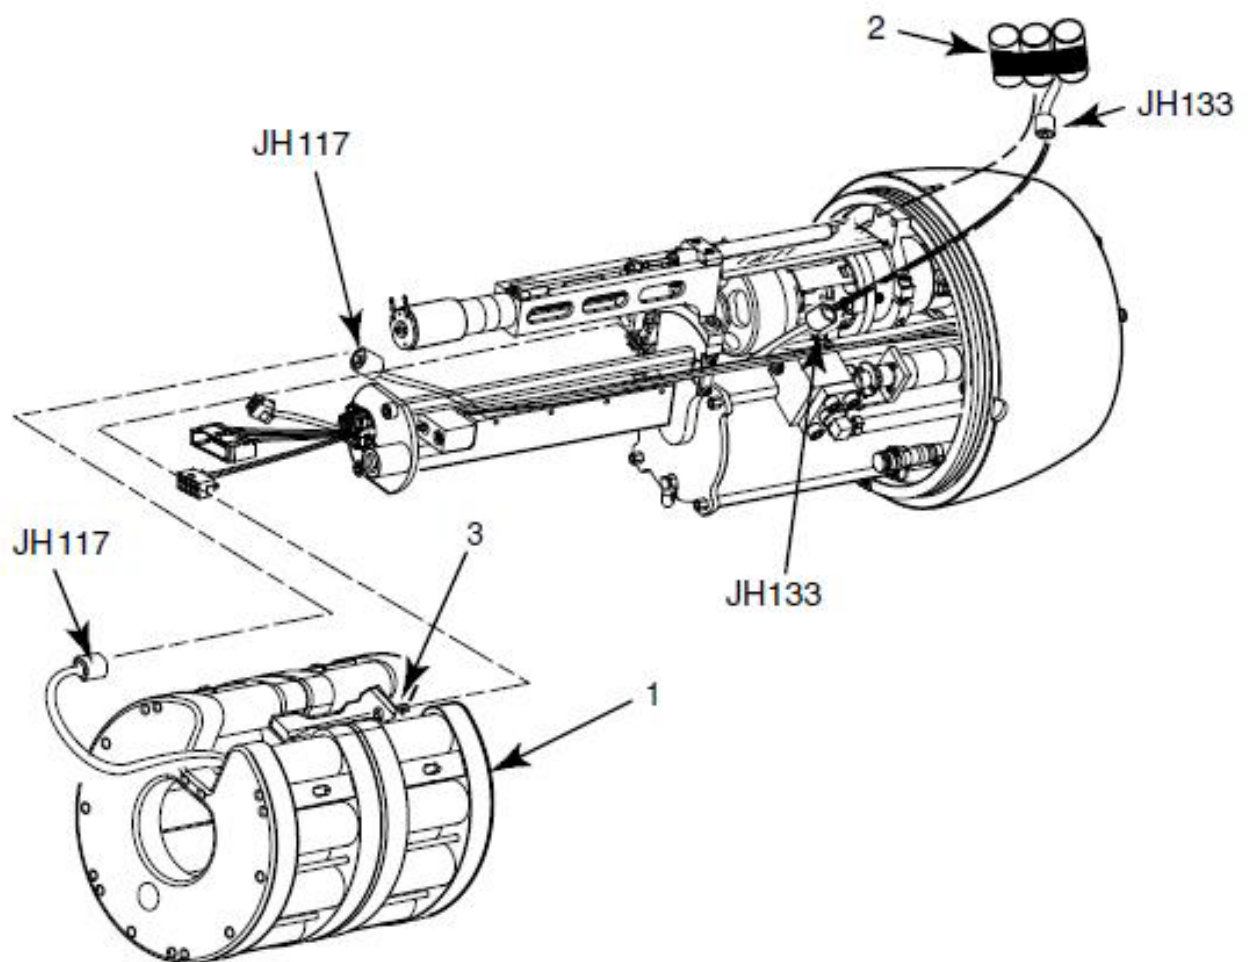

Figure 2-7 Forward/pitch glider battery pack.
1. Unplug the JH117 connection on the pitch battery (Figure 2-7, Item 1) from the forward assembly.
2. Unplug the JH133 connection on the emergency battery (Figure 2-7, Item 2) from the forward assembly.
3. Loosen the screw (Figure 2-7, Item 3).
4. Remove the pitch battery (Figure 2-7, Item 1).
2. Position the pitch battery (Figure 2-7, Item 1) and tighten the screw (Figure 2-7, Item 3).
3. Connect the JH133 on the emergency battery (Figure 2-7, Item 2) to the forward assembly.
4. Connect the JH117 on the pitch battery (Figure 2-7, Item 1) to the forward assembly.